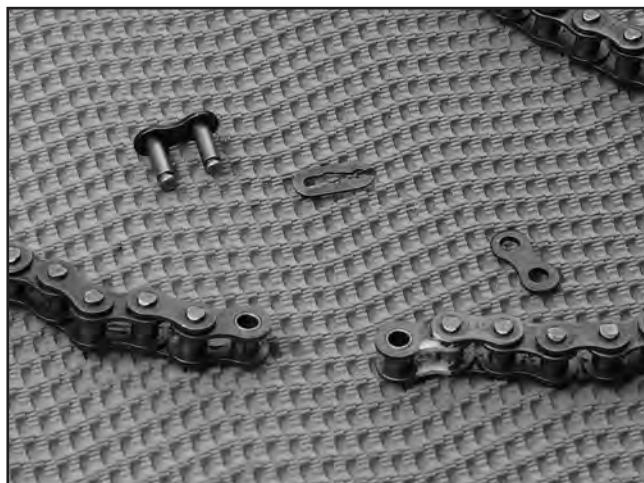

Figure 79. Chain removed from table.
13. Loosen chain idler sprocket, carefully pull chain off all sprockets, and remove it from cabinet by removing chain master link, as shown in **Figure 79**.